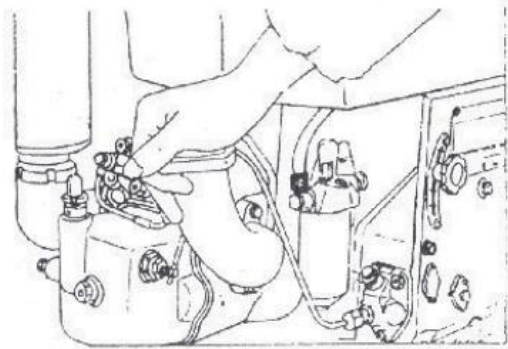

Fig. 8 Um método de parada de emergência. Bloquear o tubo de entrada do motor
- ✓ Under particular conditions, when emergency stop is required, it is advisable to loosen any connections from the high pressure fuel line or use a tow or towel available to block the air filter inlet. The engine can also be stopped by placing the pressure relief device in action (Fig.8).